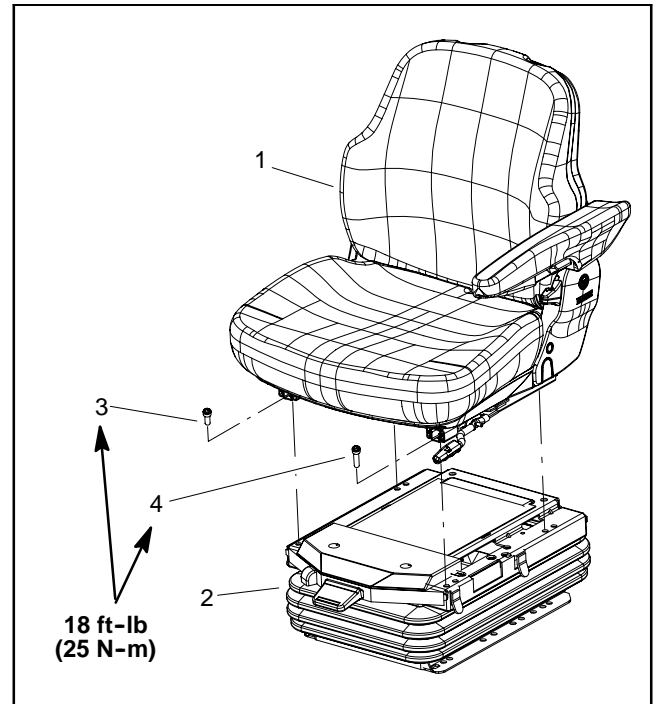

Figure 15
8. Remove four (4) torx head screws that secure seat to seat suspension (Fig. 15). Note that the screw near the seat adjustment handle is longer than the other three (3) screws.
2. Secure seat to seat suspension with four (4) torx head screws (Fig. 15). Make sure that longer screw is positioned near the seat adjustment handle. Torque screws **18 ft-lb (25 N-m)**.